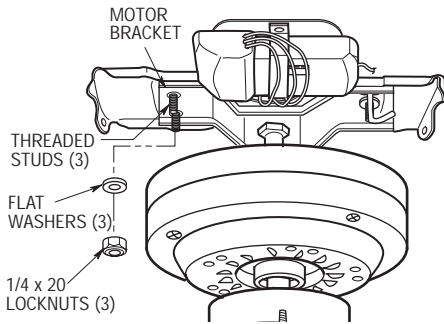

Figure 7
- 7. Pivot the motor assembly on the hook so that the three threaded studs on the mounting plate protrude through the three holes in the motor bracket (Figure 7).
- 8. Install and securely tighten three 1/4-20 locknuts and flat washers (nuts and washers supplied) onto the threaded studs (Figure 7), then try to shake the motor bracket to ensure that the assembly is tight.